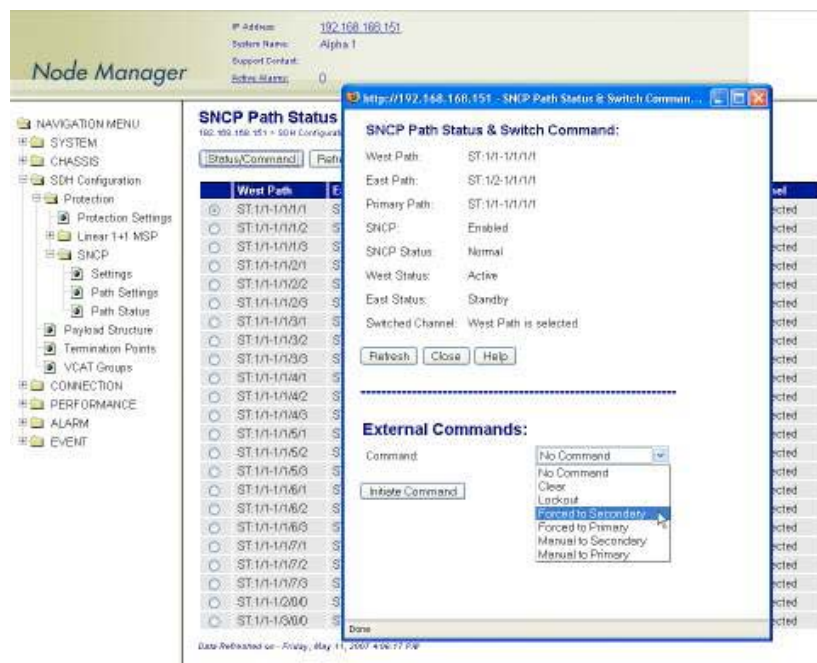

Figure 70. Configuring the External Commands for SNCP Path Switching
To activate any of the external commands for SNCP path switching, see Figure 70 and follow these steps:
8. To reset any active command, select the **Clear** command option and click on **Initiate Command**. Otherwise, the current command remains active until a higher-priority command is issued or failure occurs (see Figure 70).